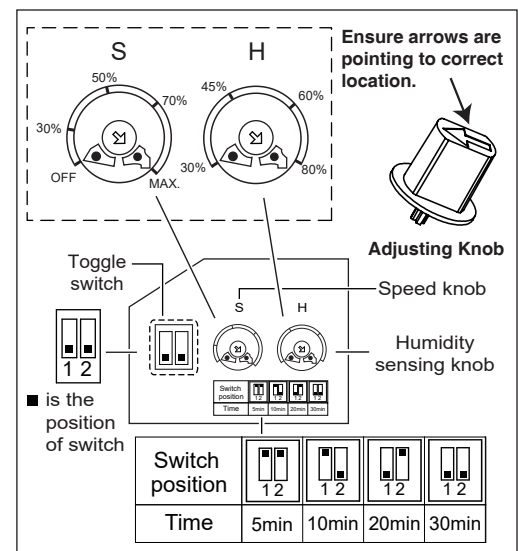

Fig 3
- There are two toggles on the toggle switch. Adjust the toggles as shown in fig 3 to adjust the delay time. The timer is pre-set to 30 minutes. When the humidity is lower than the sensor setting, the fan will maintain its maximum speed until the pre-set time is up.
When installing Humidity and Speed Knobs, make sure the arrows are pointing to the correct location as picture shows in Fig 3.